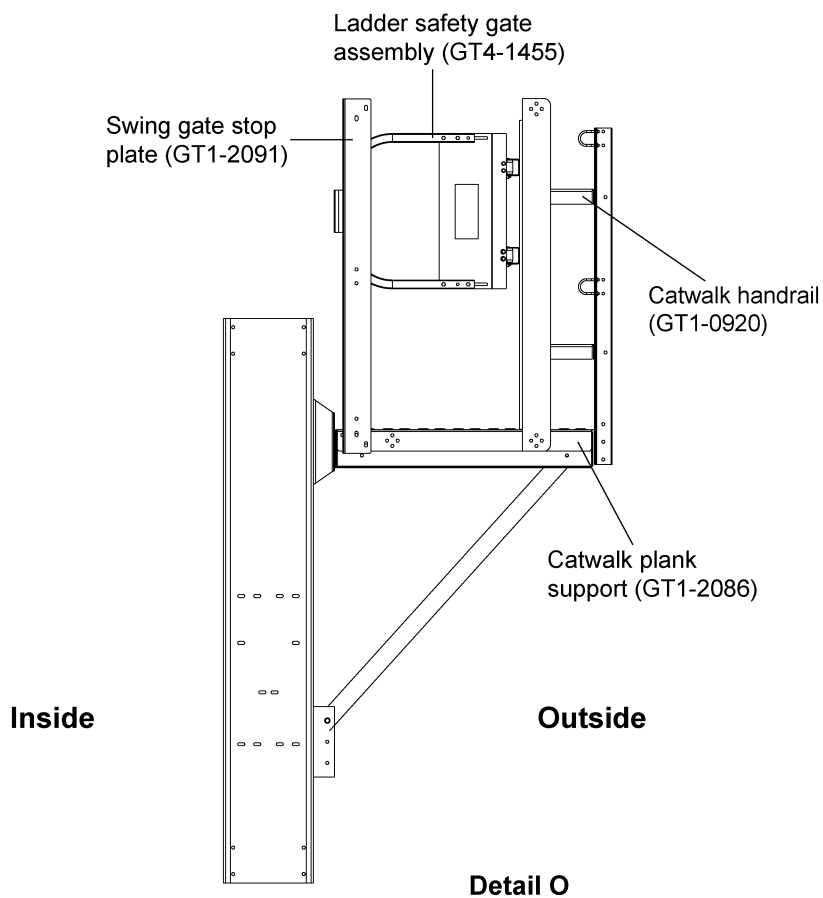

**Figure 6Y** Offset Ladder Safety Gate Assembly to Swing Gate Support (GT1-2087)
2. Install two (2) catwalk handrails (GT1-0920) between the swing gate support (GT1-2087) and catwalk vertical support (GT1-2037-BS). *(See Figure 6X below and Figure 6Y on Page 57.)*
3. Install the ladder safety gate assembly (GT4-1455) to the swing gate support (GT1-2087) using 3/8"-16 x 1" YDP grade 8 or grade 8.2 bolts (S-7927) and 3/8"-16 ZN grade 5 nuts (S-968). The distance between the plank and handrail is 42". (See Figure 6Y.)